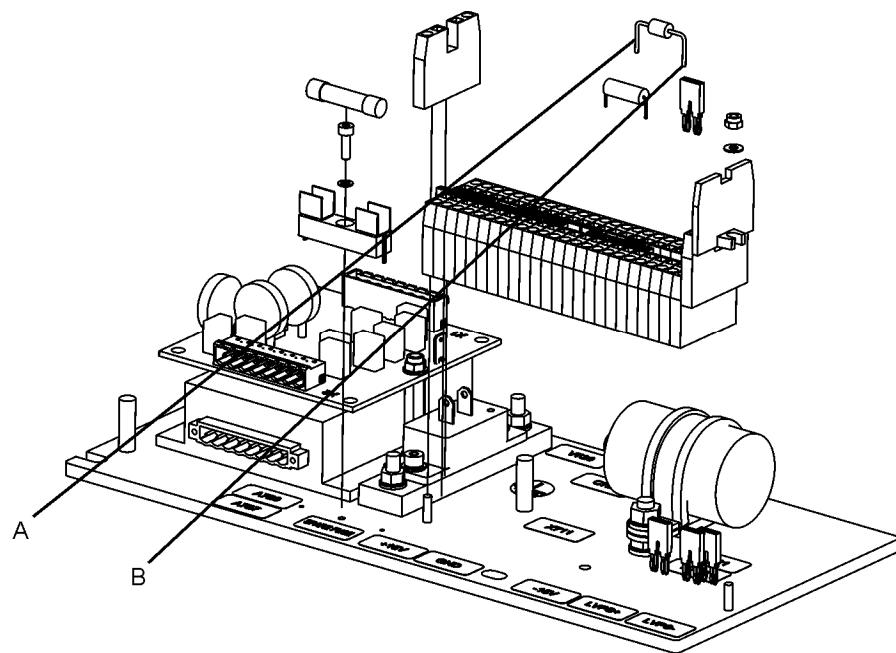
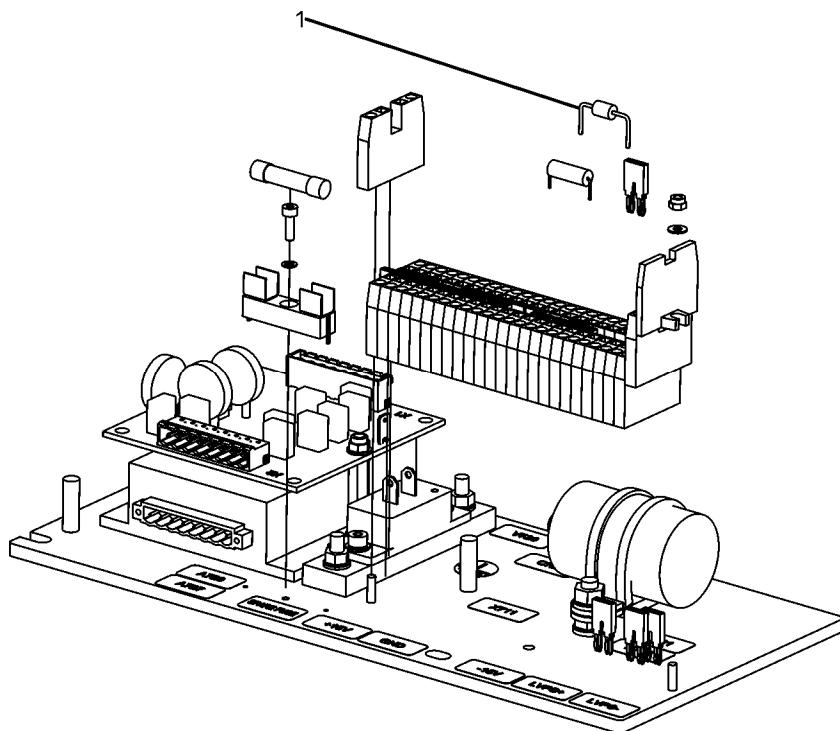

Figure 5-67: V721 Electrical Connections
Figure 5-68: V721 Anchor Points
5. Remove V721 (see Figure 5-67 and Figure 5-68). V721 (1) is mounted directly on the X711 terminal block between pins 20 and 21. To remove, use a small screwdriver to push downward on the release catch next to each pin. It may be necessary to bend the Rectifier Diode to remove it.
2. Bend the Rectifier Diode for insertion. Insert V721 (see Figure 5-67). Note the correct polarity of the diode. Press firmly down the Rectifier Diode into the slot 20 and slot 21 until the latching mechanism is locked.